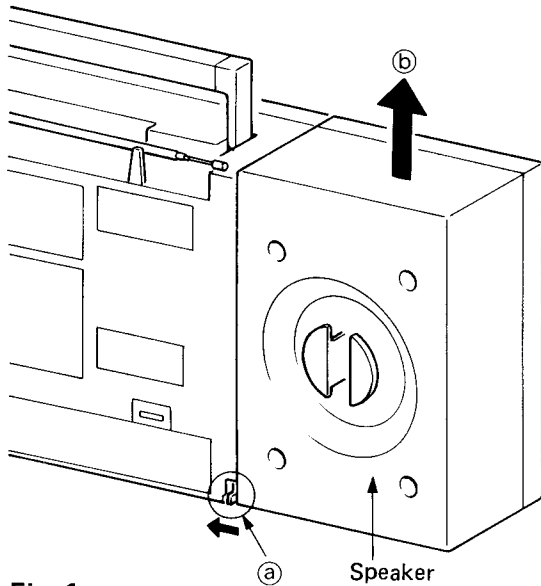

Fig. 1
1. Removing the Speaker Units (Fig. 1)